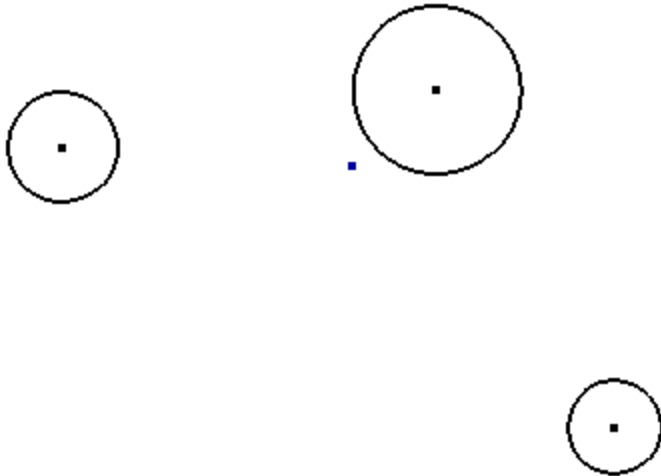

Figure 3: Additional circles.
6. Place two additional circles of smaller diameter as shown in Figure 3.